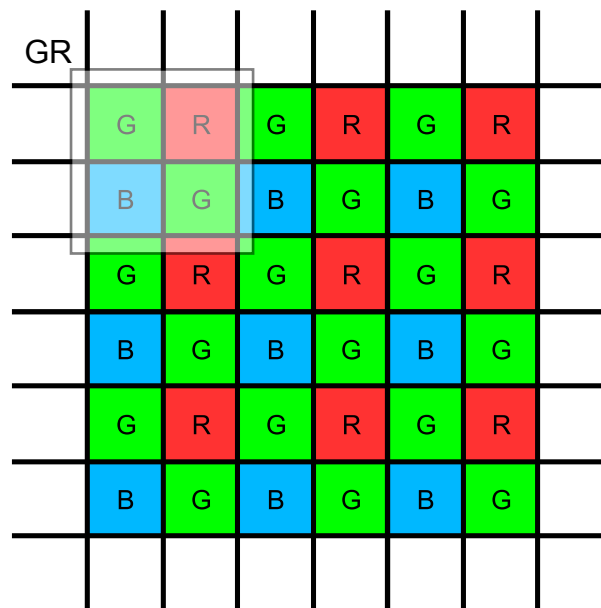
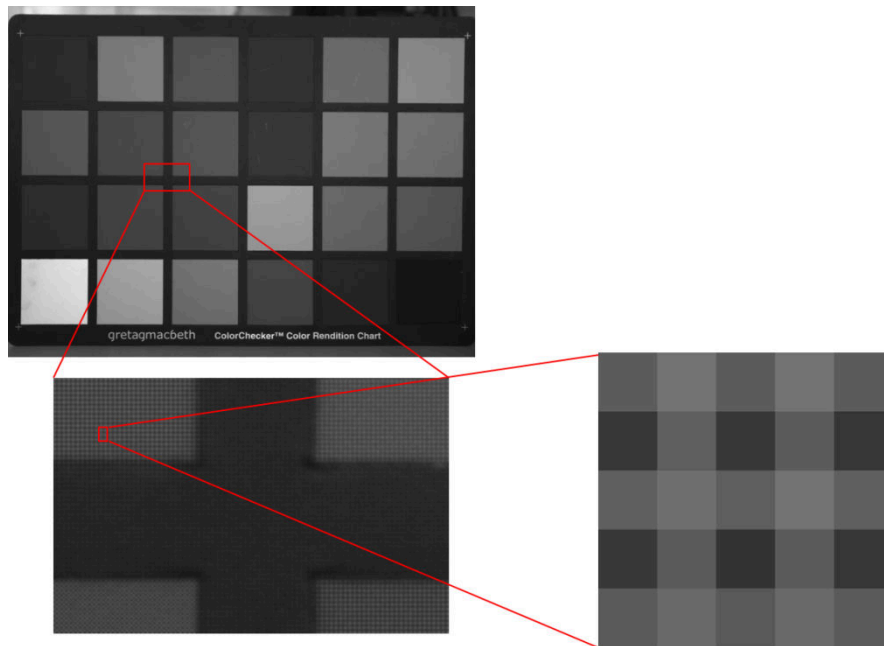

Figure 155: Bayer Filter Pattern GR
Figure 156: Raw image overlaid with a Bayer pattern
Each pixel on a digital camera sensor contains a light sensitive photo diode which measures the amount of incoming light. As photodiodes are monochromatic devices, they are unable to determine the distribution of the incoming light to different wavelengths. A common way to distinguish between different light wavelengths or colors is to place an array of color filters (*Color Filter Array*; CFA) on top of the sensor to filter out for example the red, green, and blue components of light falling onto it. Among many CFA patterns, the most commonly used is the Bayer pattern. For each  $2 \times 2$  set of pixels, two diagonally opposed pixels are equipped with filters which are only transmissive for green, the other two only for red and blue. Since green carries most of the luminance information for the human eye, its sampling rate is twice as that of R and B. Figure 155 shows the "GR" filter alignment, which means that the pattern starts with green (G) followed by red (R).
The illustration in Figure 155 is for demonstration purposes only. In effect, each pixel is described by an intensity value, which appears gray to the human eye, shown in Figure 156.
Figure 156 shows a raw image from a color camera. If it is zoomed into the image, the Bayer pattern gets more and more visible. Each pixel represents an intensity value, to reconstruct a full color image from the incomplete color samples, the missing color information at each pixel has to be interpolated. The interpolation process has several different names like *Color Filter Array Interpolation*, *Demosaicing* or *Debayering*. The reconstructed image is typically accurate in uniform-colored areas, but has a loss of resolution especially at structures and edges.